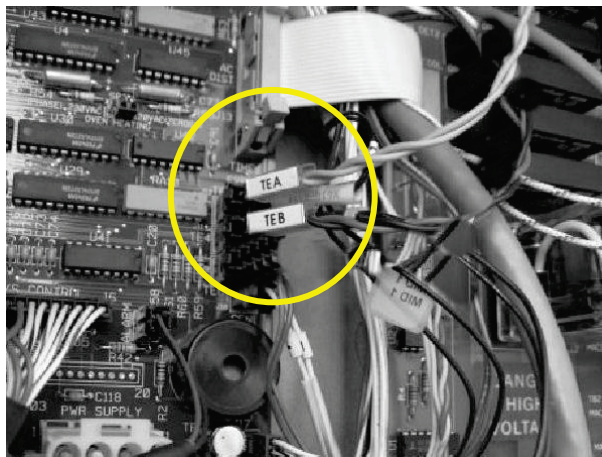

Figure 36 Connecting the remote cable to the available time event sockets on the GC main board (circled)
26. Locate the time event sockets TE1 to TE6 at the bottom right of the GC main board and connect the remote cable connectors TEA and TEB to any two of these sockets (Figure 36).